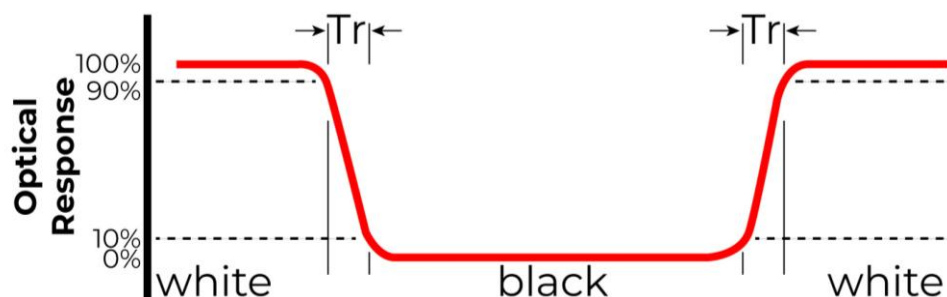

Figure 2. The definition of response time
| Contrast Ratio             | Cr       |                                                | -    | 800  | 1000 | ---               | FIG 2. | 1, 7 |
| CIE (x, y)Chromaticity | Rx       | $\theta=0^\circ$$\phi=0^\circ$Ta=25 °C | 0.22 | 0.26 | 0.30 | -                 | FIG 2. | 5,7  |
**Note 1.** Contrast Ratio (CR) is defined mathematically as below, for more information see Figure 2.
**Note 2.** Surface luminance is the LCD surface from the surface with all pixels displaying white. For more information see Figure 2.
**Note 3.** The uniformity in surface luminance  $\delta$  WHITE is determined by measuring luminance at each test position 1 through 5, and then dividing the minimum luminance of 5 points luminance by maximum luminance of 5 points luminance. For more information see Figure 2.